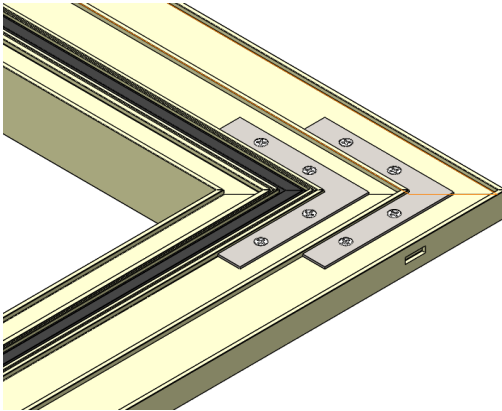

Figure 4:
2. Orient sill with the bottom side up or the head with the top side up. Use the braces as guides to pre-drill holes for the screws and install the “L-Shaped” braces as shown (Figures 4 and 5). Make sure to protect the head or sill to prevent damage to finish while installing braces. Keep corners tight while installing braces to prevent a gap at the mitered corner.